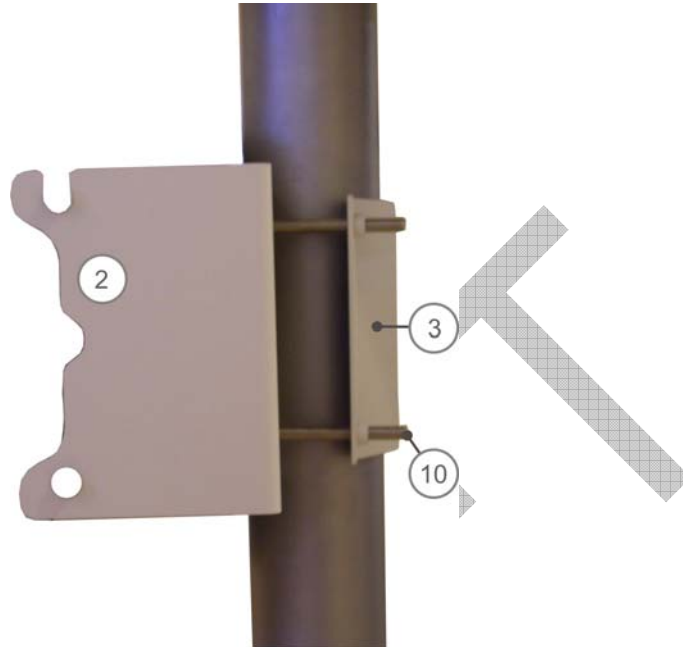

Figure 18: Pole Mounting – Attaching the Two Brackets, with Pole in the Middle
- c. Thread the screws (10) through the holes in the pole mount hanging bracket, and tighten them. See Figure 18.